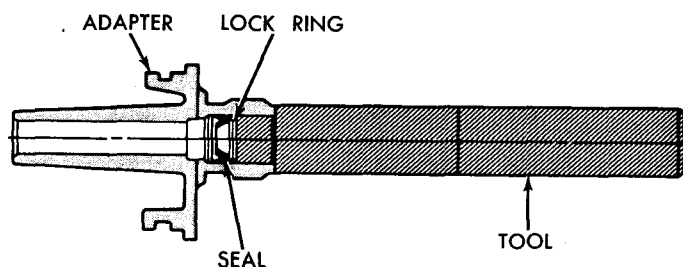

Fig. 8—Installing Speedometer Pinion Seal
(5) Start seal and retainer ring in adapter, then push them into adapter with Tool C-4004 until tool bottoms (Fig. 8).